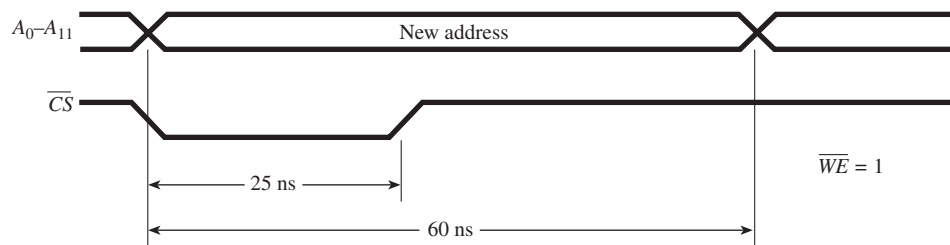

Figure P16-13
- T** **16-13.** When troubleshooting the memory system in Figure 16-7, you keep reading incorrect values at D_0 to D_7 . Using a logic analyzer, you observe the waveforms of Figure P16-13 at A_0 to A_{11} and CE . What is wrong and how would you correct it?